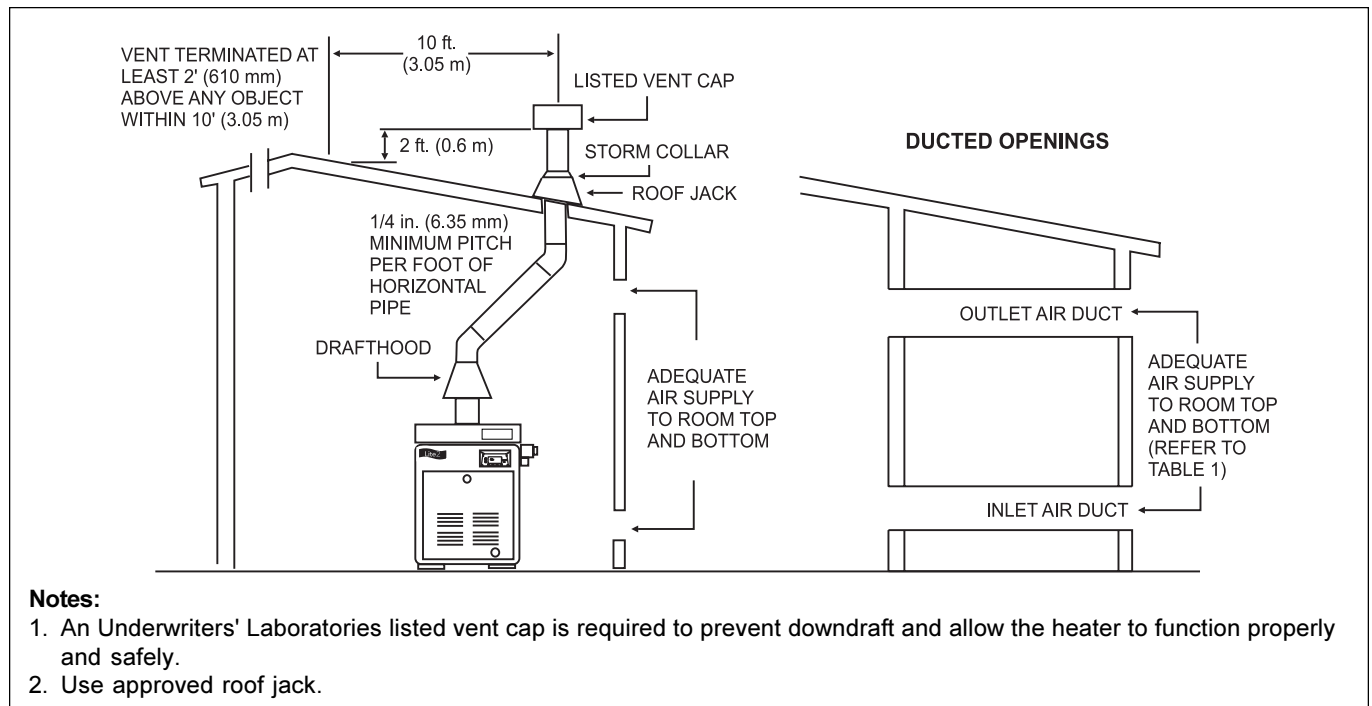

Figure 4. Indoor Installation Venting (USA), or Outdoor Shelter (Canada).
In general, these requirements specify that the room in which a heater is installed should be provided with two permanent air supply openings; one within 12 inches (305mm) of the ceiling, the other within 12 inches (305mm) of the floor. All indoor installations must have openings to outside air for combustion, ventilation, and dilution of flue gases from inside the building (see Figure 4 and Table 2). Water Pik Technologies does not recommend indoor installations that do not provide combustion air from outside the building.
Outside Air Supply: When combustion air is supplied directly through an outside wall, each opening should have a minimum free area of one square inch per 4,000 BTU/h (1.2kW) input of the total input rating of all appliances in the enclosed area. If air is provided through horizontal ducts, each opening and duct must provide one square inch of flow area for each 2000 BTU/h (0.6 kW). These requirements are summarized in Table 2. Note that the areas specified are net free areas and should be increased when the openings are covered by screens, louvers, grills or other protective covers (see Figure 4 and Table 2 notes).
The draft hood outlet is to be connected to an unobstructed vent pipe of the same diameter, terminating outside the building. The vent must terminate at least two (2) feet (0.6 m) above the highest point of the roof or other object that is within ten (10) feet (3.0 m) of the vent termination. The vent pipe must have a listed vent cap which allows a full equivalent opening for flue products (see Figure 4). The top of the vent cap must be at least five feet in vertical height above the draft hood outlet.